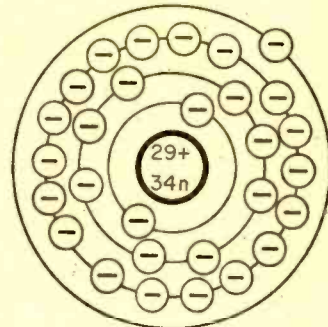

Fig. 3. The number of electrons to each ring are limited—2 in first; 8 in second; 18 for the third and a total of 32 in fourth orbital ring.
**Electrons in Orbit.** An atom of matter has a number of electrons orbiting around its nucleus. A hydrogen atom, for example, has a single electron; carbon on the other hand has 6. These electrons are arranged in rings or shells around the central nucleus—each ring having a definite maximum capacity of electrons which it can retain. For example, in the copper atom shown in Fig. 3 the maximum number of electrons that can exist in